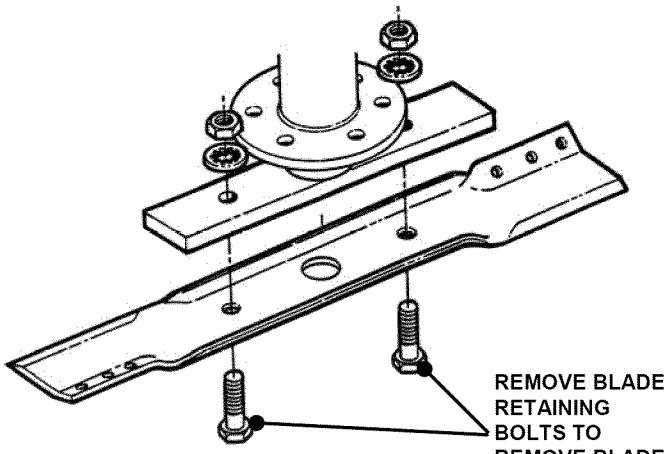

FIGURE 4.2
6. Reinstall blade. See Figure 4.2. Check torque of blade retaining bolts. Recommended torque should be 30 to 40 ft. lbs.
3. Remove blade. See Figure 4.2.